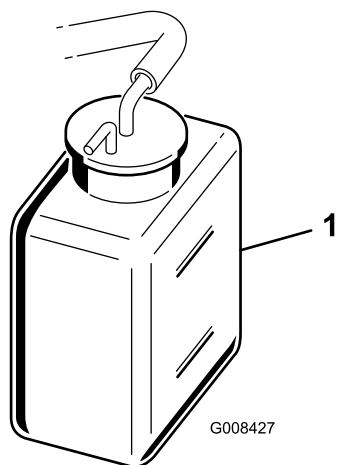

Figure 24
2. Check the coolant level (Figure 24).